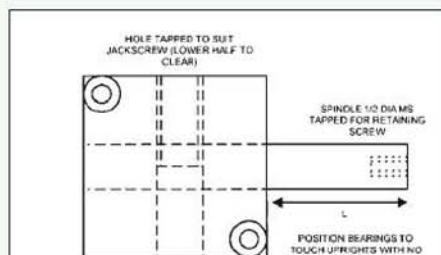

FIG. 2 RAISING BLOCK
Except for the spindle length (L) both raising blocks (fig 2) are identical, a longer spindle being required at one end to accommodate the indexing device. For these blocks I used 2in. x 2in. x 1in. aluminium alloy, reduced to 0.985in. thick for clearance between the uprights, and drilled $\frac{1}{2}$ in. centrally in the horizontal plane for the spindle which is fixed with Loctite. After the spindles are in place the hole for the jacking screw is drilled centrally from the top face using a tapping drill to suit the jacking screw thread; the block is then inverted and the hole opened out to clearance size for about an inch deep. This allows a full length of thread to be cut using a standard length tap.